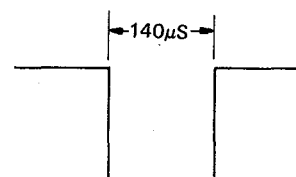

Figure 103.
1. Put the set in play (DS) mode.
2. Observe the output of I2005 (pin ⑦) on oscilloscope (external trigger, I2003, pin ⑩ ⊕), and adjust R2032 (DS-FV control) so that the resultant level will be as shown in Fig. 103.